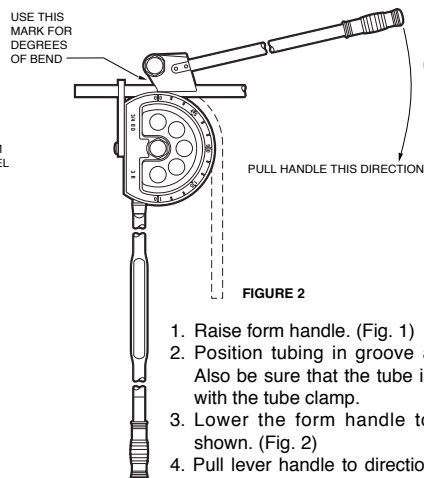

FIGURE 2
3. Lower the form handle to position shown. (Fig. 2)
5. Degree of bend is indicated by mark on form handle and shown in Fig. 2. Bends up to 180° can be made in one sweep of the handle.